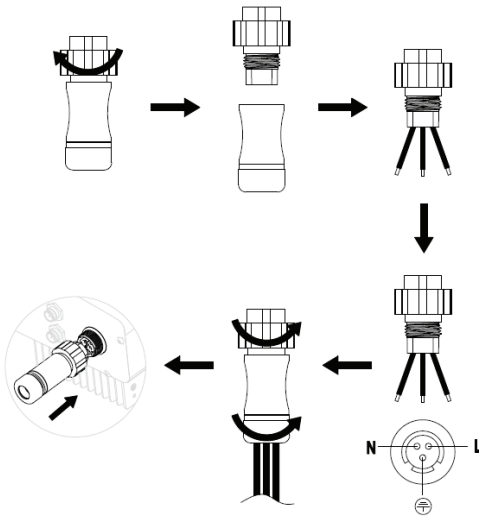

Figure 16 AC connection of single-phase inverter
(1) Before connecting the single-phase AC grid cable to the inverter, take lightning and short circuit protection measures in accordance with the local electrical safety codes;
(2) As shown in Figure 16, connect and fasten L, N and PE conductors of the single-phase AC grid to AC terminal and tighten to 0.5 Nm. Assemble the AC terminal and tighten to 2.5-3 Nm, then connect the terminal to the AC port of the inverter.
(3) Connect the DC output cable of the PV module to the DC connector which provided by our company, and then connect the DC connector to the DC terminal of the inverter.